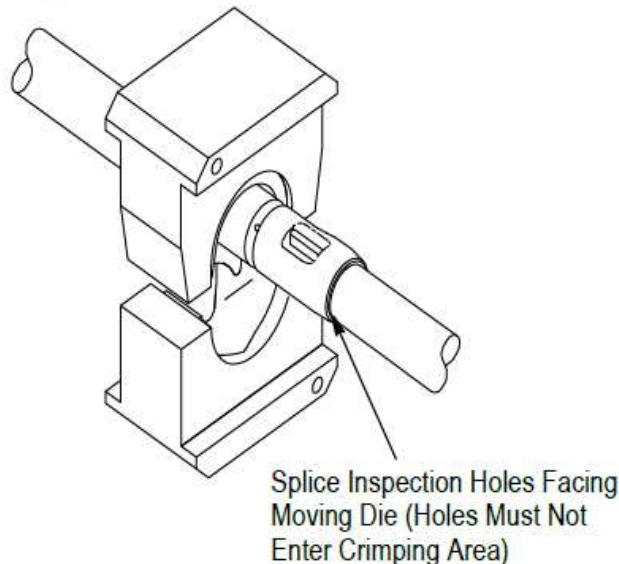

Figure 7
6. To crimp the other half of the butt splice, rotate the splice or power unit 180 degrees, making sure that the splice is properly positioned as described in Step 1. Then follow Steps 2 through 5 (see Figure 7).